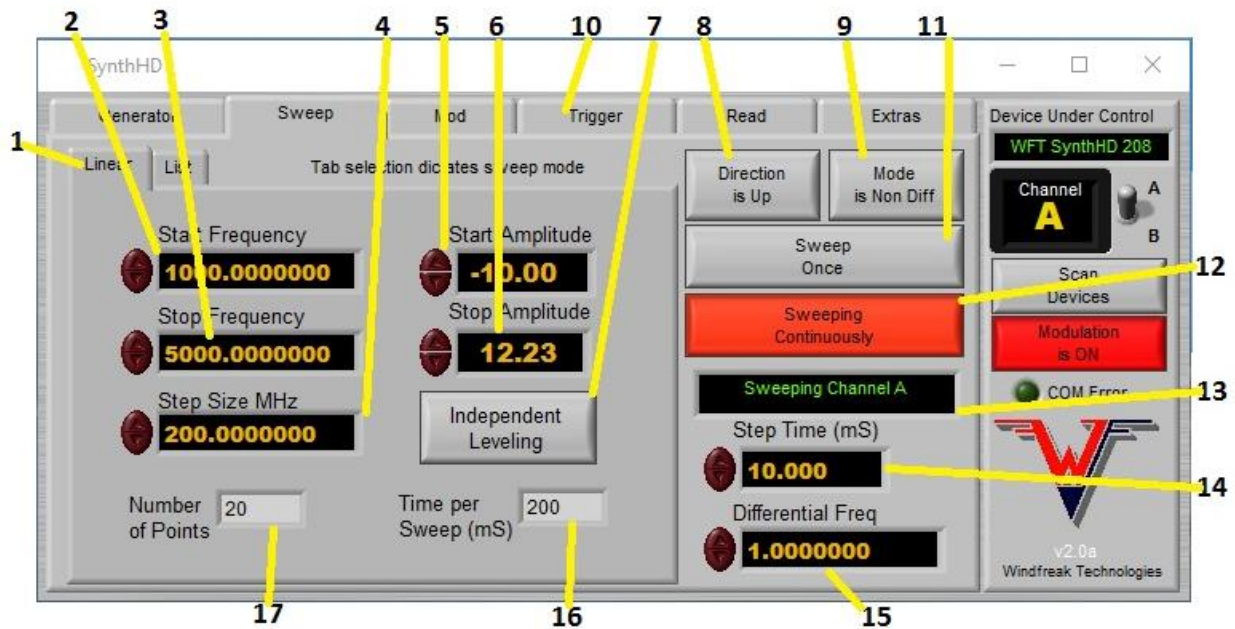

Figure 2 – Sweep Tab – Linear Sweep
The **Sweep Tab** (figure 2) is the place to set up sweeps. Sweeps can be either linear or come from a table.
1. **Sweep Type Tab.** Choose either Linear or List. Linear is explained in Figure 2. The table can be a total of 100 unique frequencies and amplitudes. List sweep acts almost exactly like linear sweep except it steps in arbitrary ways defined by the user. Right click on the table for advanced editing tools.
2. **Full Frequency Sweep.** Detailed in Figure 2 and Figure 3 Item 10.
3. **Single Sweep Step.** Detailed in Figure 2 and Figure 3 Item 10.